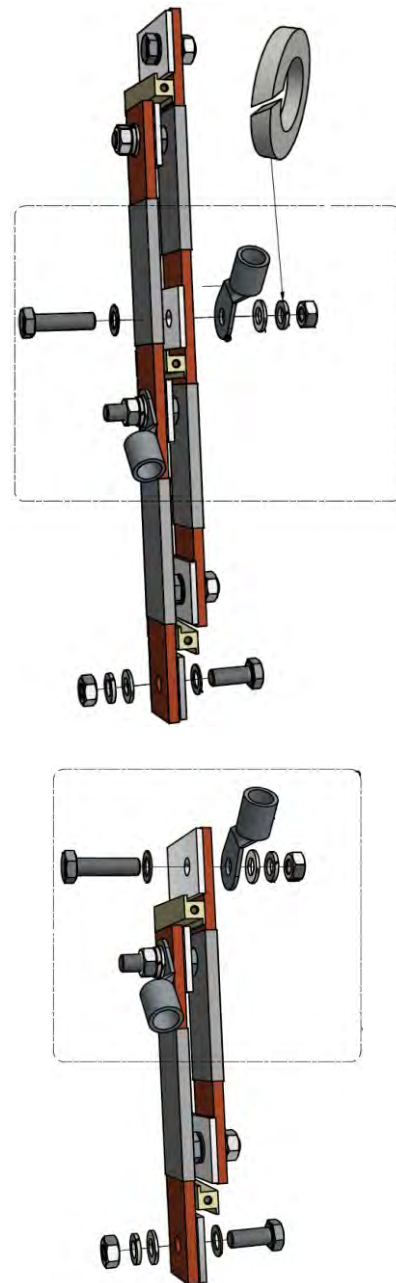

fig. 2 - 2
- See example drawings for different number of units in the M/S application note. See fig 2 - 2.